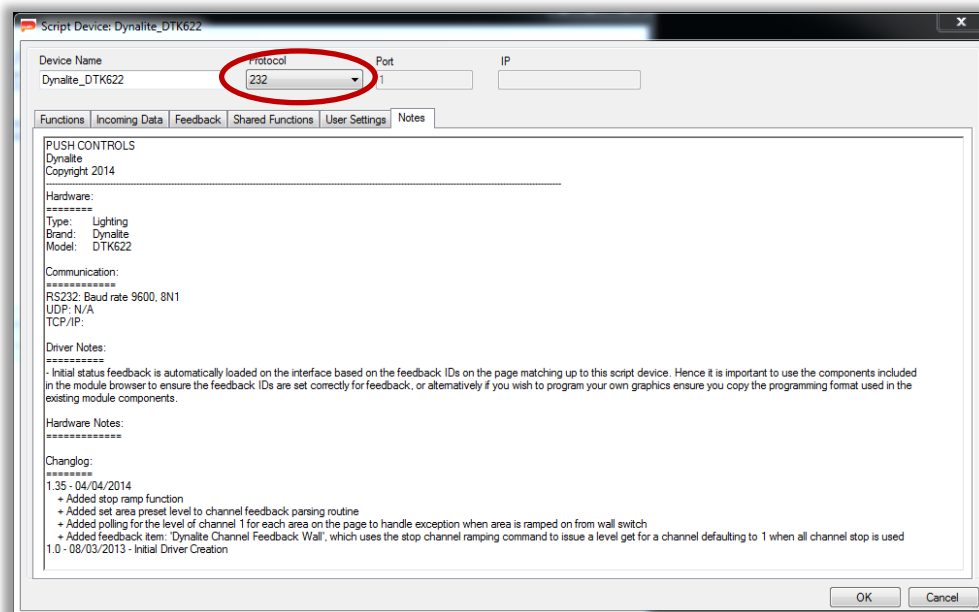

Figure 9 – Device Properties Window: Set the protocol to be used for communication with the device
- Set the Protocol to RS232. *Refer to Figure 9*